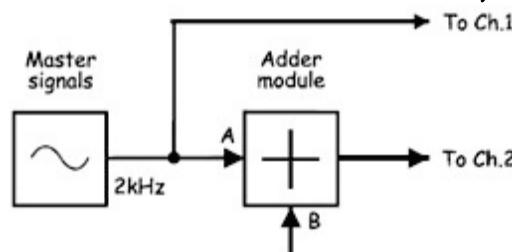
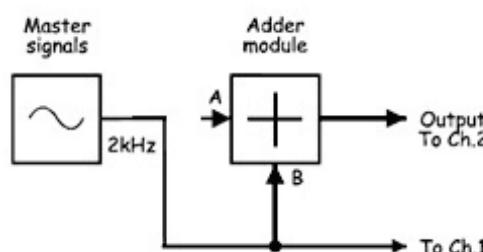

Figure 6: Adder example.
Figure 7: Adder example.
- Locate the adder module and connect the setup shown in Figure 6. Find out the maximum gain for input A, and then connect the setup in Figure 7. Find out the maximum gain for input B, noting the uncertainty in this measurement..